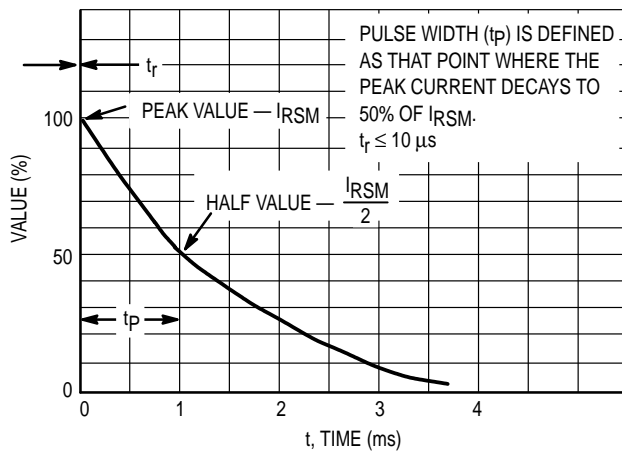
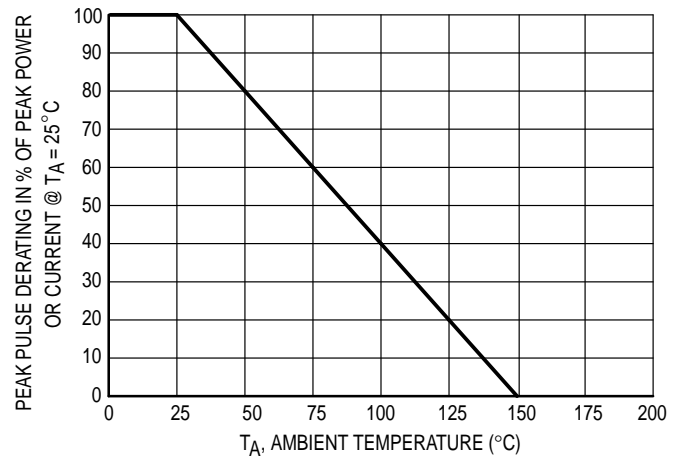

Figure 5. Pulse Waveform
Figure 6. Pulse Derating Curve
- Peak Power — 24 or 40 Watts @ 1.0 ms (Unidirectional), per Figure 5 Waveform
(1) Non-repetitive current pulse per Figure 5 and derate above $T_A = 25^\circ\text{C}$ per Figure 6.
(2) FR-5 = 1.0 x 0.75 x 0.62 in.
(3) Alumina = 0.4 x 0.3 x 0.024 in., 99.5% alumina
(3) V_Z/V_{BR} measured at pulse test current I_T at an ambient temperature of 25°C .
(4) Surge current waveform per Figure 5 and derate per Figure 6.